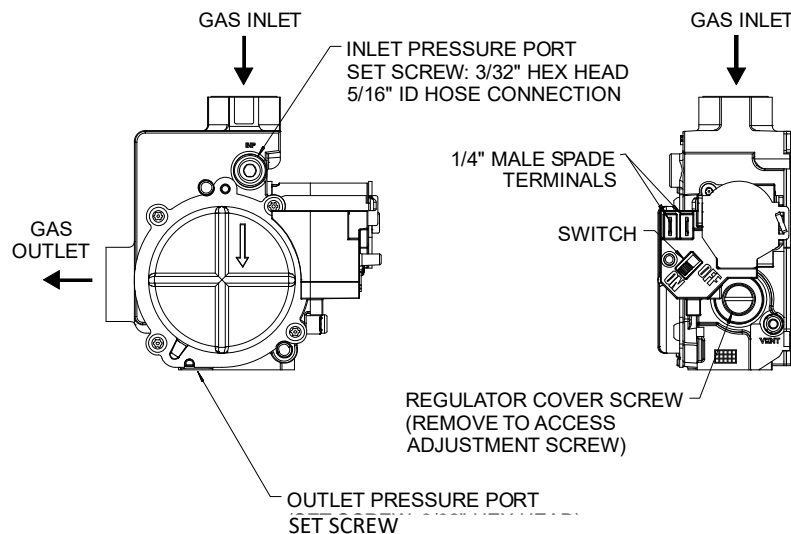

Figure 28 - Gas Valve
4. Check that the position of the manual gas shut-off valve is in the "on" position (see **FIGURE 28– Manual Gas Shutoff Valve**).